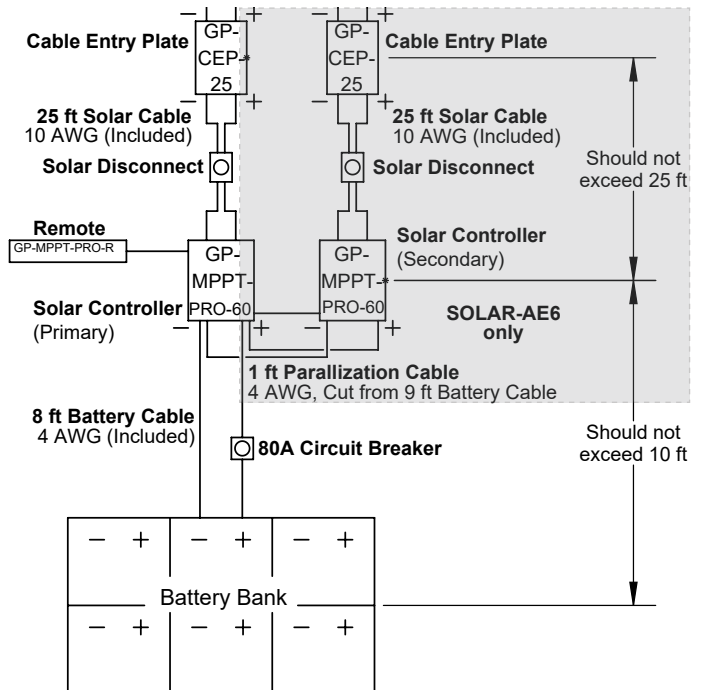

FIGURE 3-A
1. Plan where the GP-MPPT-PRO-60 charge controller(s) will mount, see Figure 3-A for more detail including maximum distances.